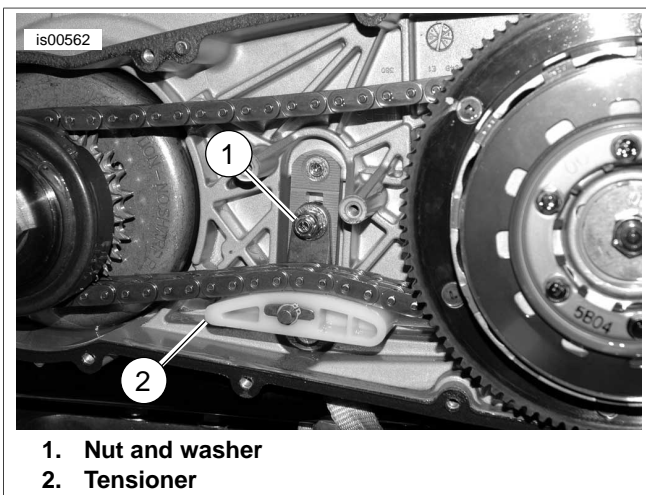

Figure 2. Manual Tensioner: 2001 and Later
- a. See Figure 2. Remove nut and washer (1) and remove chain tensioner (2).